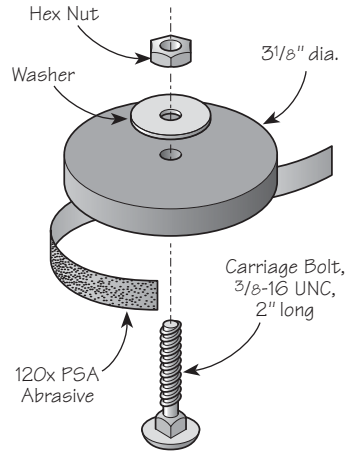

Figure 11: Homemade grinding disc.
- **Disc:** Make a $3\frac{1}{8}$ " diameter disc from $\frac{5}{8}$ " or $\frac{3}{4}$ " thick plywood, as shown in **Figure 11**. This can be done on the lathe, bandsaw, or by hand. Once roughed out, assemble the disc and mount the assembly in a drill press to sand the edges. This will ensure concentricity. Then wrap the rim with a strip of 120x PSA sandpaper (preferably blue zirconia).